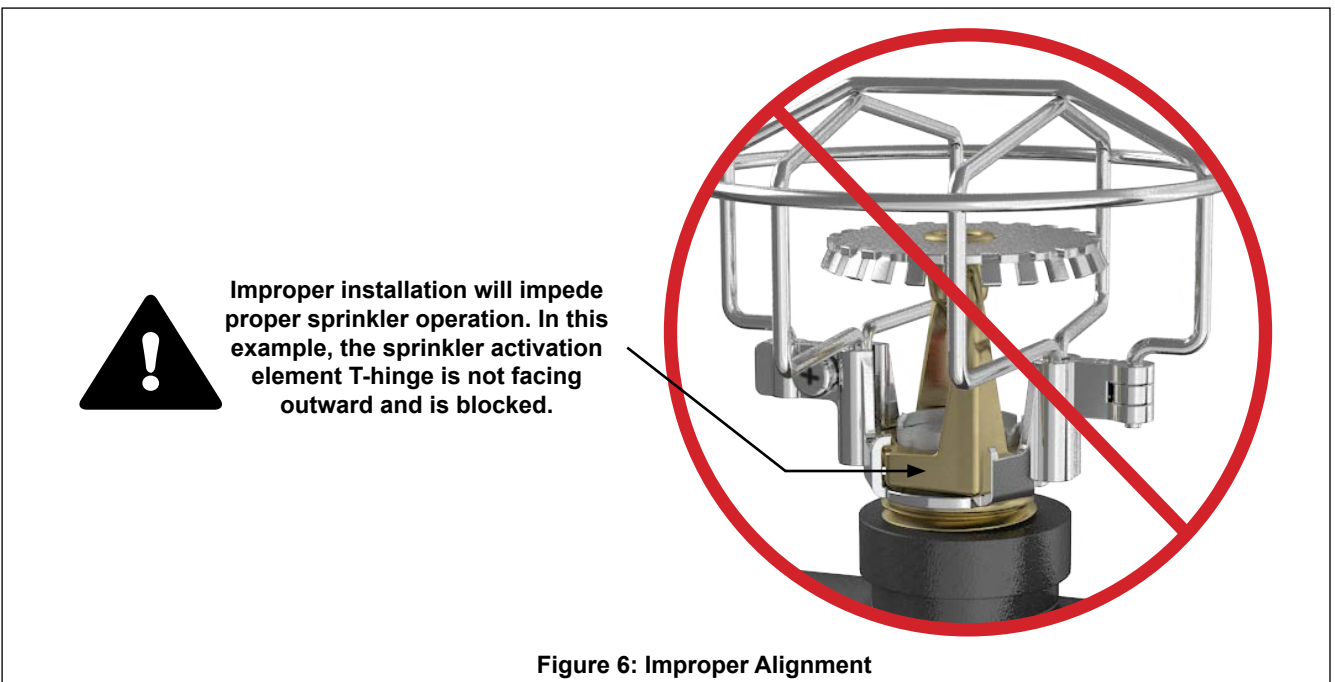

Figure 6: Improper Alignment
6. VERIFY THAT THE SPRINKLER IS PROPERLY ORIENTED WITHIN THE GUARD. SEE FIGURE 6 BELOW.